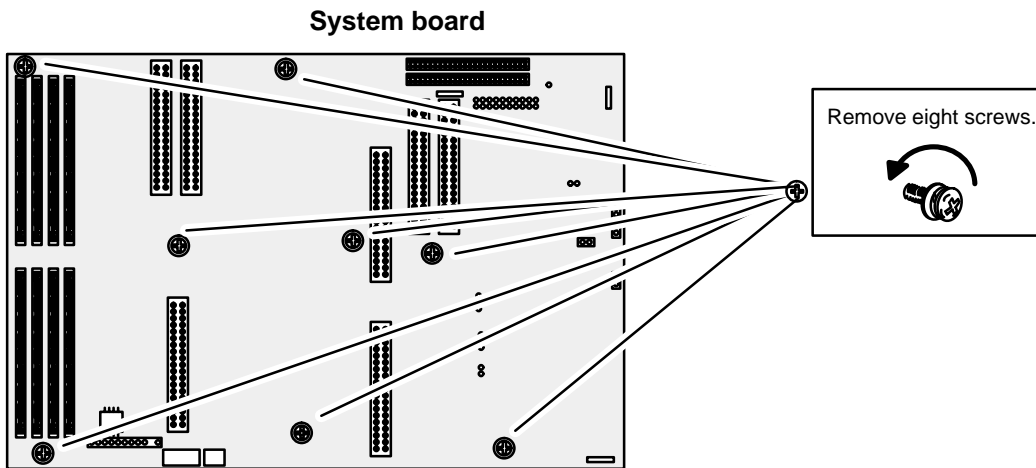

Figure 10-4 Unscrewing the System Board from the Computer Unit
- Using the medium Phillips screwdriver, remove the eight screws, shown in Figure 10-4, that secure the system board to the computer unit.